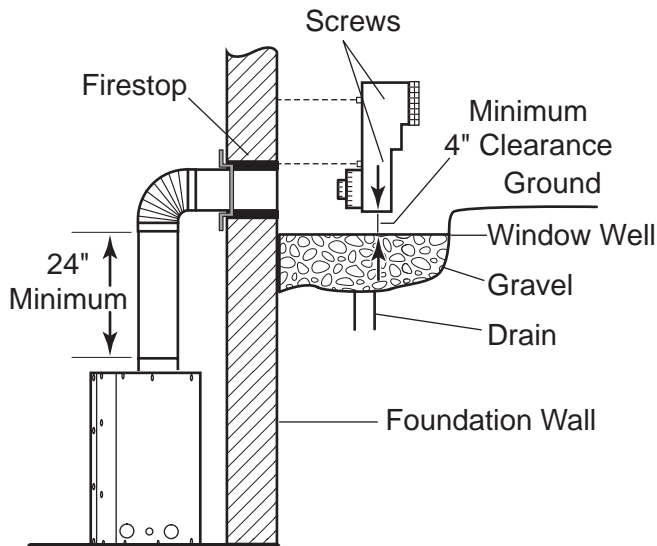

Figure 16 - Below Grade Installation
2. Remove soil to a depth of approximately 16" below base of snorkel. Install drain pipe. Install window well (not supplied). Refill hole with 12" of coarse gravel leaving a clearance of approximately 4" below snorkel. *See Figure 16.*
7. Level the soil so as to maintain a 4" clearance below snorkel. *See Figure 16.*